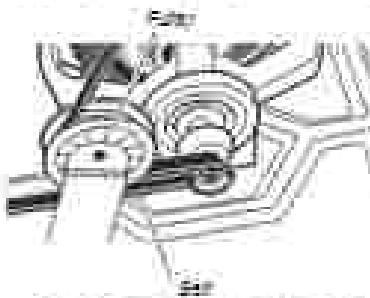

Figure 6 - Dryer removed drum set.
11. Check the drive motor. Slowly remove the drum set from the ball-bearings pulley (green) using the pulley down. See figure 6.